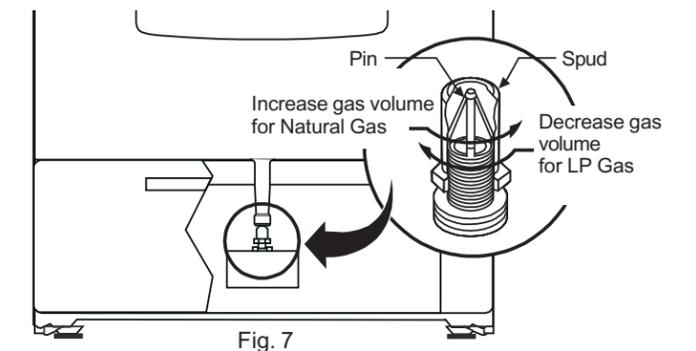

Fig. 7
- Check orifice hood adjustment on the oven safety valve to be sure it is adjusted for the type of gas supplied to the range (Natural or LP - See Fig. 7).